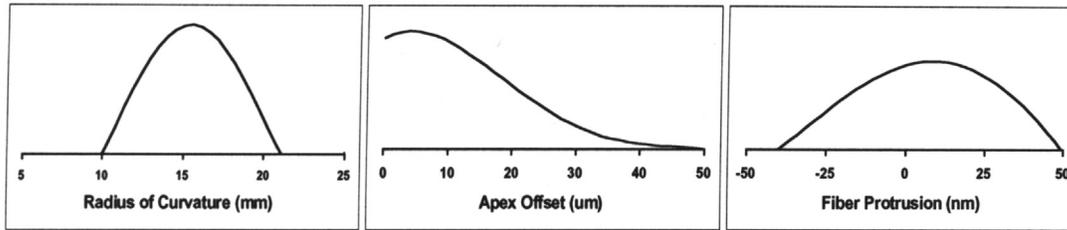

Figure 6-11
**6.4-1** UniCam connectors are factory polished to precise quality standards. This polish provides single-mode end-face geometry meeting industry standards. Figure 6-11 shows typical single-mode, ceramic ferrule end-face geometry results.